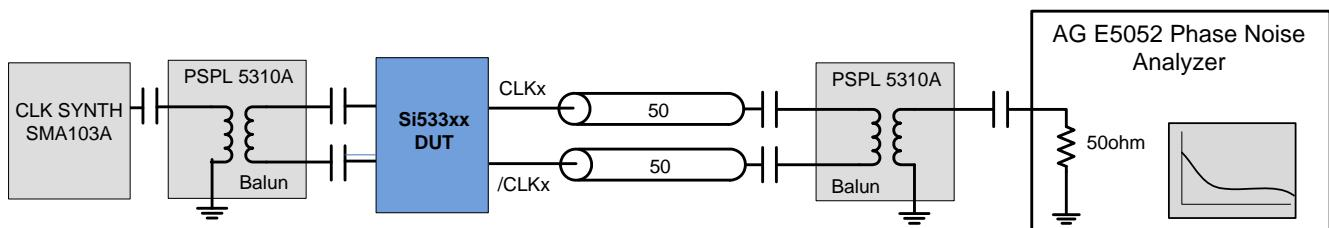

Figure 1. Differential Measurement Method Using a Balun
3. Measured differentially using a balun at the phase noise analyzer input. See Figure 1.
- Measured differentially using a balun at the phase noise analyzer input. See Figure 1. LVC MOS jitter is measured single-ended.